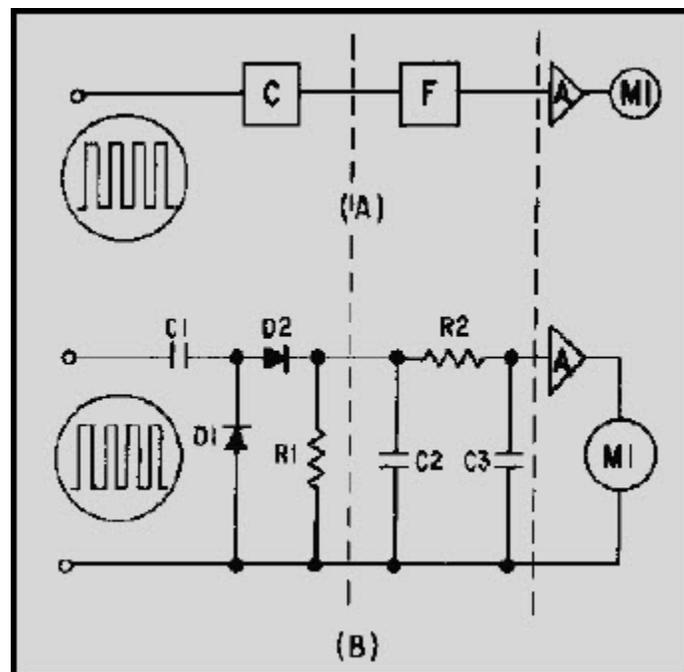

Figure 4-44 Basic frequency counter
From the preceding discussion, you should see that the voltage across the output varies in direct proportion to the input pulse repetition rate. Hence, if the repetition rate of the incoming pulses increases, the voltage across R1 also increases. For the circuit to function as a frequency counter, some method must be employed to use this frequency-to-voltage relationship to operate an indicator. The block diagram in view (A) of figure 4-44 represents one simple circuit which may be used to perform this function. In this circuit, the basic counter is fed into a low-pass filter and an amplifier with a meter that is calibrated in units of frequency.
Reversing the connections of diodes D1 and D2 in the positive-counter circuit (view (A) of figure 4-43) will cause the circuit to respond to negative pulses and become a negative-counter circuit. Diode D2 conducts during the time the negative pulse is applied and current flows in the opposite direction through R1, as was indicated by the arrow. At the end of the negative pulse, D1 conducts and discharges C1. The current through R1 increases with an increase in pulse frequency as before. However, if the voltage developed across R1 is applied to the same control circuit, as shown in view (A) of figure 4-44, the increase in current will be in a negative direction and the amplifier will conduct less. Thus, the effect is opposite to that of the positive counter.